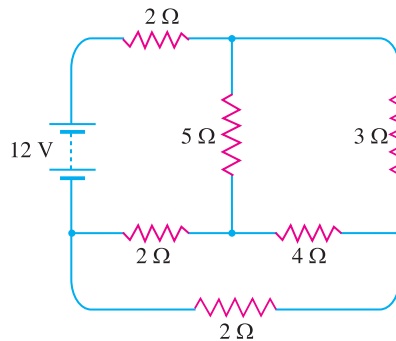

Fig. 1.53
8. Using Thevenin's theorem, find the current through 4 Ω resistor in the circuit of Fig. 1.53. **[0.305 A]**